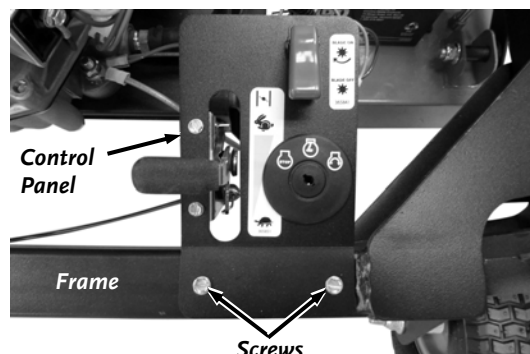

Figure 16
16. Remove the Screws from the Frame using a 5/16" Wrench and install Control panel to the Frame (**Figure 16**).